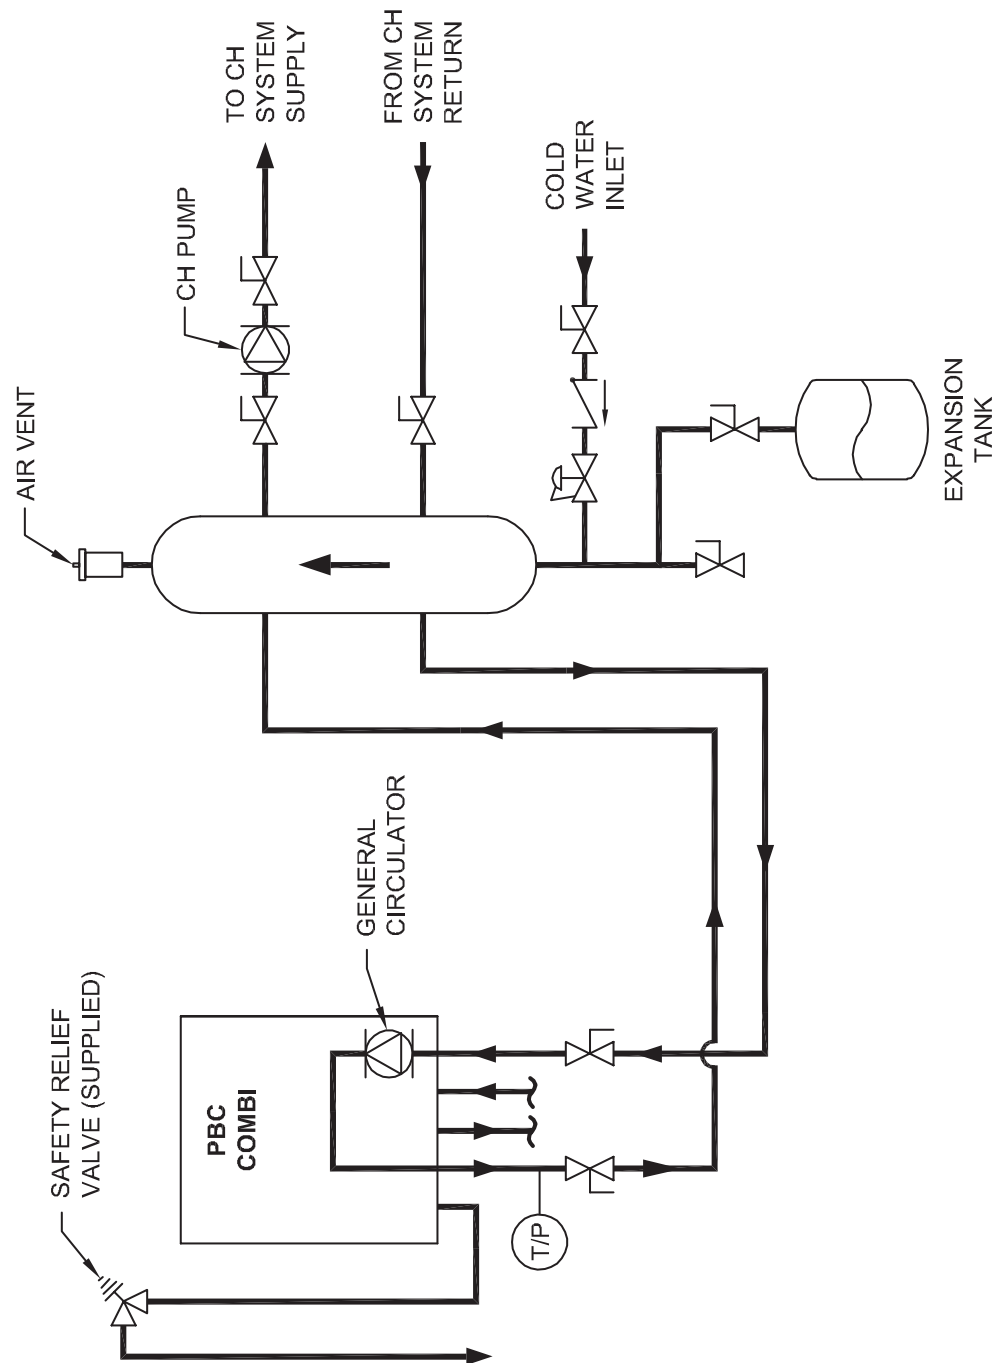

Figure 4.7: Recommended Central Heat Piping with Hydronic Separator
- g. A drain valve should be located immediately before the domestic inlet and after the domestic outlet of the boiler. This allows for easy flushing and descaling of the plate heat exchanger. A set of shutoff valves should be placed before the domestic inlet drain valve and after the domestic outlet drain valves as well in order to isolate the rest of the domestic supply to the structure (as shown in Figure 4.7). Domestic water service valve kits, like Webstone kit 4443WPR or other similar valve kits, meet the needs listed above.